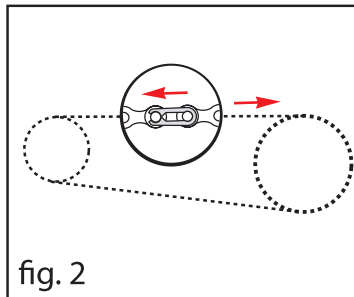

fig. 2
- 4.3. Rotate chain so MissingLink is positioned on top of the chain (fig.2)